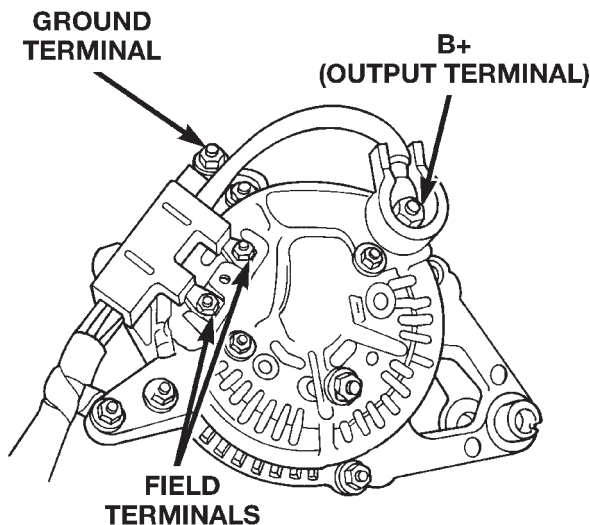
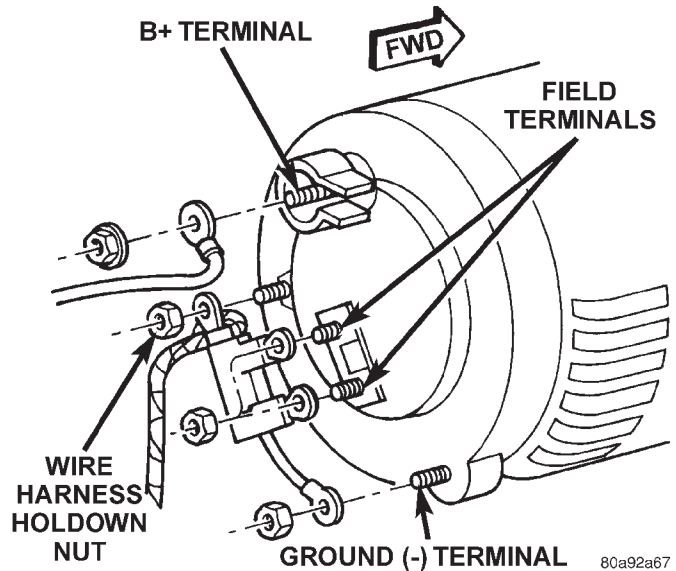

Fig. 1 Generator Terminals (Typical Wiring Harness Shown)
Fig. 2 Generator Terminals (Typical Wiring Harness Shown)
These tests will show the amount of voltage drop across the generator output wire, from the generator output (B+) terminal to the battery positive post. They will also show the amount of voltage drop from the ground (-) terminal on the generator to the battery negative post. Typical generator wiring harnesses are shown in (Fig. 1) or (Fig. 2). Wiring harness routing as shown may be slightly different depending on vehicle model and/or engine. Refer to Group 8W, Wiring Diagrams for additional information.
(3) Connect one end of a jumper wire to a good ground. Connect the other end of jumper wire to the generator field driver (-) terminal. The 2 field terminals (+ and -) are located on the back of the generator (Fig. 1) or (Fig. 2). To locate and identify the (-) terminal and circuit, refer to Group 8W, Wiring Diagrams. Another way to identify the (-) terminal is to start the engine and measure voltage at both field terminals. The (+) terminal will show battery voltage (12.5–14.5 volts). The (-) terminal will show 3–5 volts less than battery voltage.